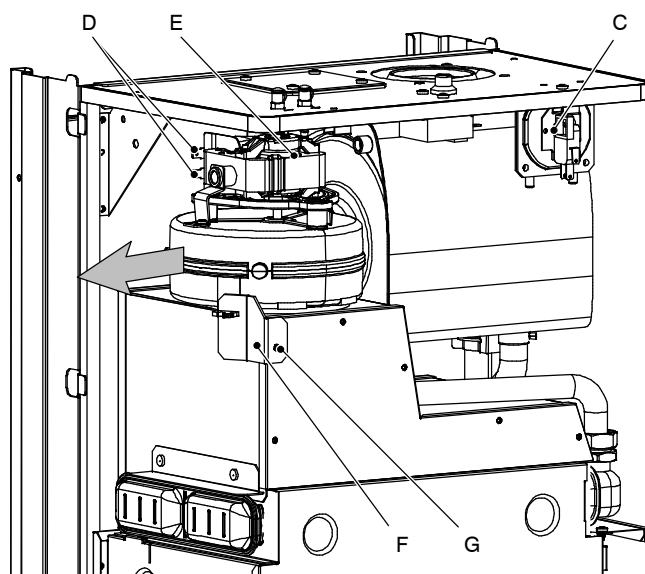

Fig. 72
- 4 Unscrew the screw *F* and remove the bracket *G* (Fig. 72).
- 5 Remove the Fan by sliding it towards left (se the arrow in Fig. 72).